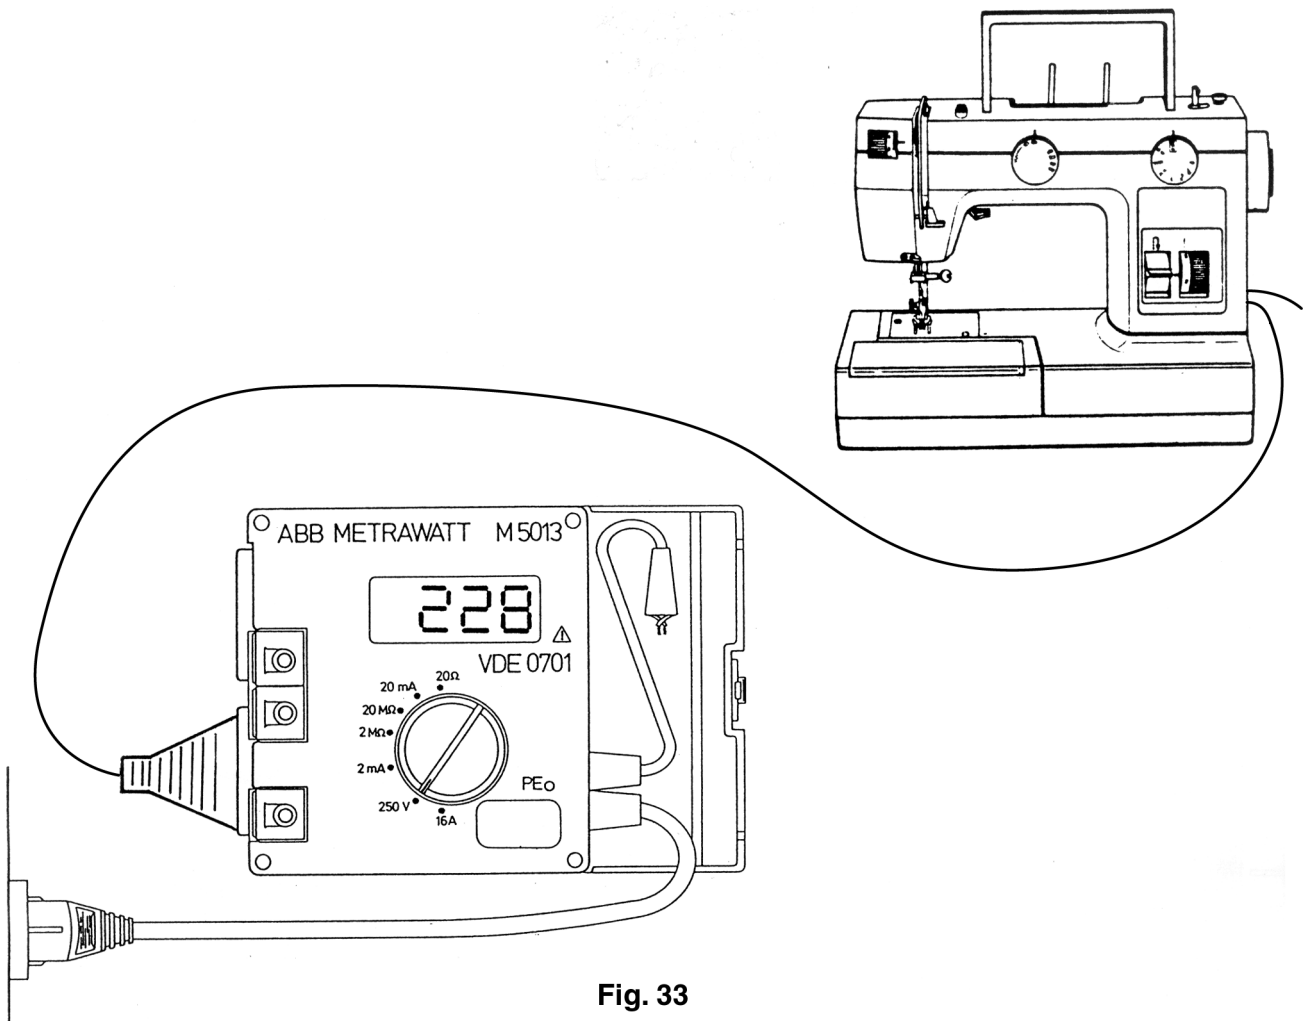

Fig. 33
- Set the testing range switch at **"250 V"** (fig. 33).